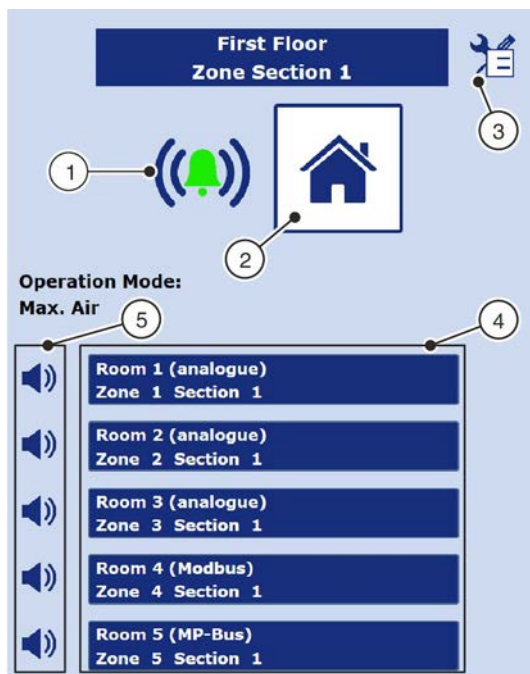

Fig. 30: Zone overview
- Displaying zone settings (Fig. 30 /4)
- Displaying zone setup (Fig. 30 /3)
- Finding zone modules (Fig. 30 /5)
- Displaying alarms (Fig. 30 /1)
The loudspeaker buttons (Fig. 30 /5) allow you to have zone modules emit a sound so that you can easily detect them.
- ▶ Click on the loudspeaker symbol (Fig. 30 /5) for a zone module.
- ⇒ The 'Zone Overview' screen (Fig. 30) displays.
From the 'Zone Overview' screen the following functions are available when you click on the respective button (Fig. 30 /1 – 5). The screen shows only zones whose zone modules have been detected by the zone master (Fig. 30 /4).
- Displaying the Start screen (Fig. 30 /2)